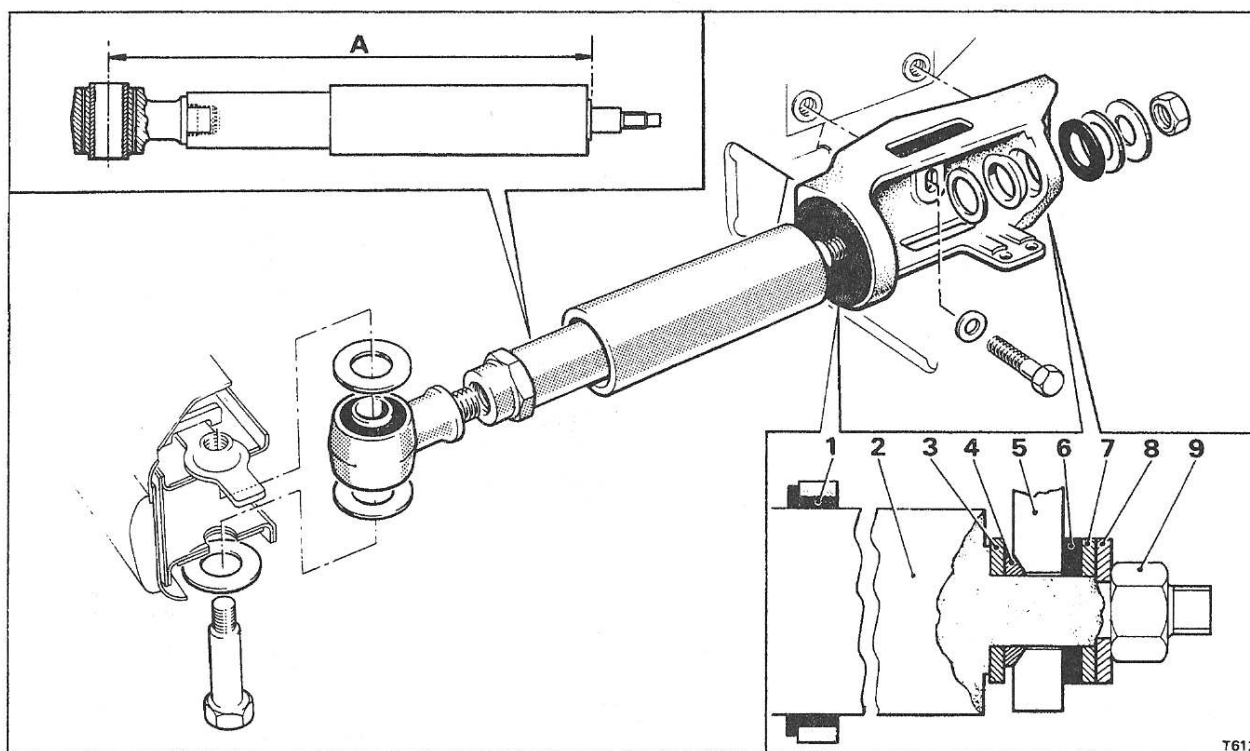

Fig. S86 Energy absorption unit
1. Using a $\frac{3}{4}$ in. A/F spanner, remove the nut securing each of the energy absorption units to its respective mounting bracket (see Fig. S86, item 9).
2. Collect the washers from the location spigot of the absorber units; note the position of the spacing washers on the spigot to facilitate assembly (see Fig. S86).
5. Fit the spherical washer onto the location spigots. The washer should be located so that the flat face of the washer abuts the end face of the unit (see Fig. S86).
bushes. Apply pressure to the bumper, simultaneously behind each absorber unit, guiding the location spigot onto each absorber unit through the holes in the mounting brackets. When the spherical washer on each absorber unit fits up against its respective mounting bracket abutment face, the units are correctly located (see Fig. S86).
8. Fit the various washers and securing nut to each absorber unit spigot stem (see Fig. S86). Torque tighten both securing nuts to the figure specified in Chapter P.
10. Check that the bumper is parallel with the forward edges of the fairing panels and radiator shell. If necessary, forward and rearward alignment of the bumper can be adjusted by altering the position of the spacing washers on the absorber unit spigot stem. The two spacing washers can be fitted as shown in Figure S86. Alternatively, both spacing washers can be fitted to either the front or rear side of the mounting bracket.
If the spacing washers are fitted to the absorber unit abutment face side of the mounting bracket, ensure that they are positioned between the abutment face of the absorber unit and the flat face of the spherical washer as shown in Figure S86.